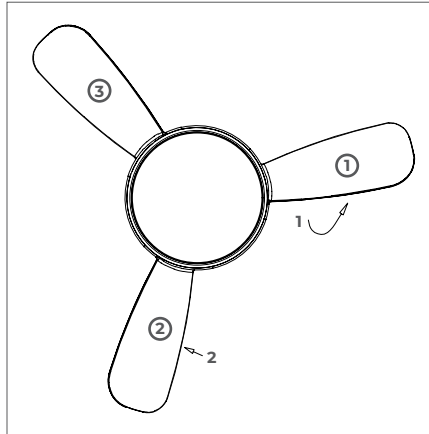

FIGURE 1
**A)** As shown in Figure 1, take off fan blades 1 and lock them tightly against each other to observe the effect.